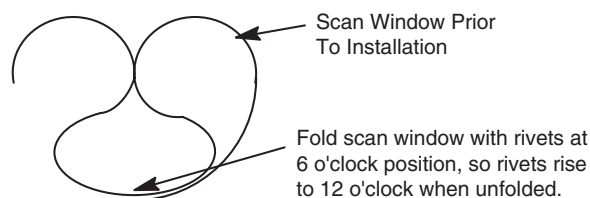
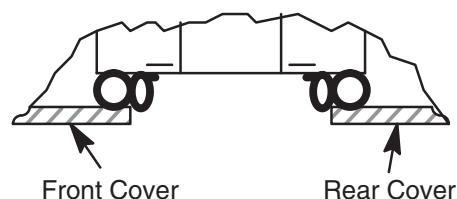

Figure A-29 Install Scan Window
Figure A-30 Scan Window Nested Between Front and Rear Cover
- 2.) Deform the scan window (as shown in Figure A-29), and nest it at the bottom of the opening between the front and rear covers (see Figure A-30). The rivets are in the six o'clock position. Remember, the rivets must be in the 12 o'clock position when the Mylar window is fully installed.